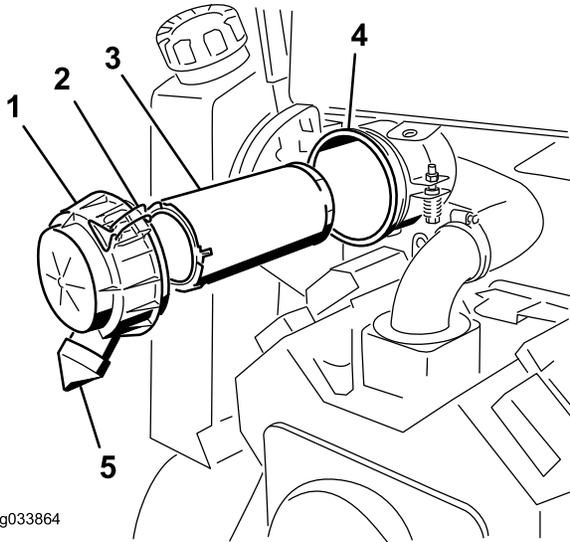

Figure 33
**Important:** Service the air-cleaner filter only when the service indicator shows red (Figure 33). Changing the air filter before it is necessary only increases the chance of dirt entering the engine when you remove the filter.
4. Release the latches on the air cleaner and pull the air-cleaner cover off the air-cleaner body (Figure 33).
1. Gently slide the primary filter out of the air-cleaner body (Figure 33). Avoid knocking the filter into the side of the body.
3. Carefully slide the primary filter into the filter body (Figure 33). Ensure that it is fully seated by pushing on the outer rim of the filter while installing it.
4. Install the air-cleaner cover with the side indicated as UP facing up and secure the latches (Figure 33).